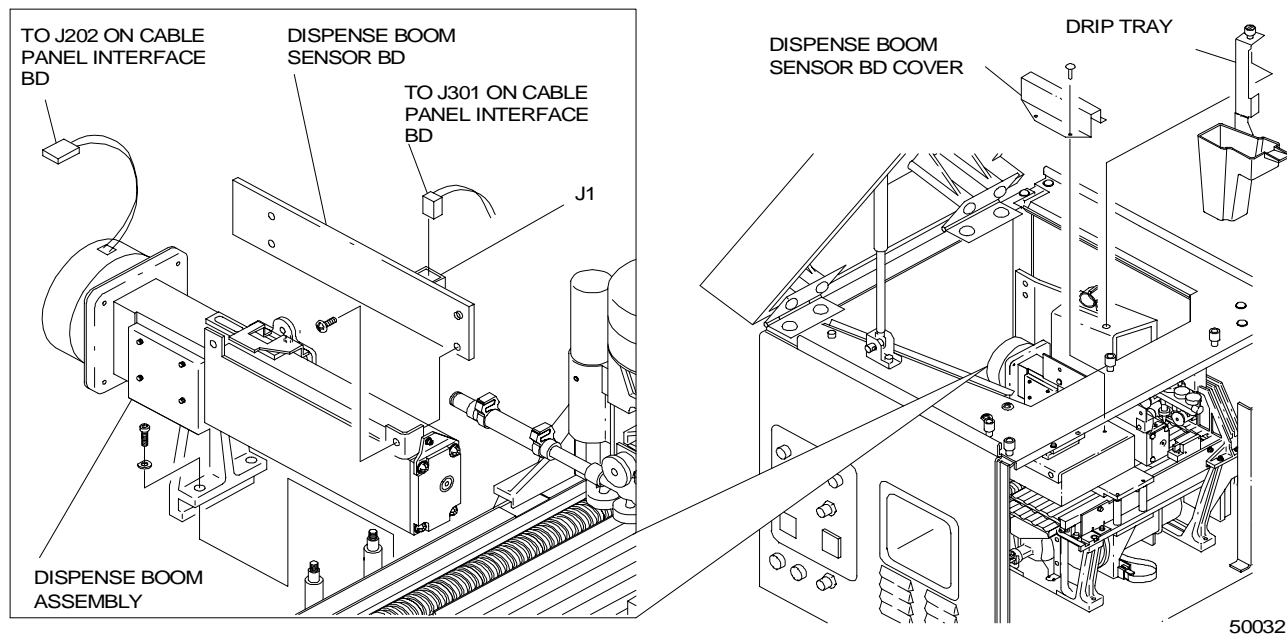

Figure 4-32. Dispense Boom Assy
3. Remove Dispense Drip Cup (**Figure 4-32**).